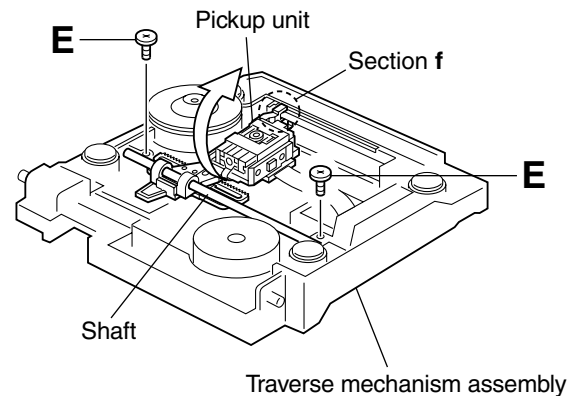

Fig.5
■ Removing the pickup unit (See Figs. 5 and 6.)